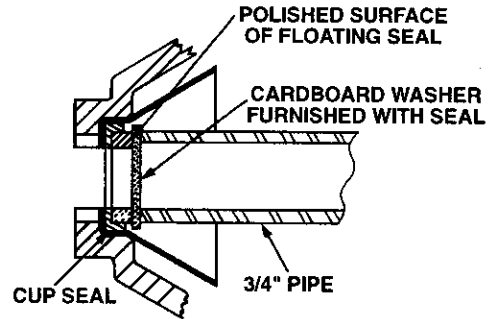

Figure 9
- C. With finger pressure, press firmly and squarely into cavity. Polished face of seat faces inside of pump. If seat will not locate properly, place cardboard washer over polished face and use piece of 3/4" standard pipe for pressing purposes. See Figure 9.